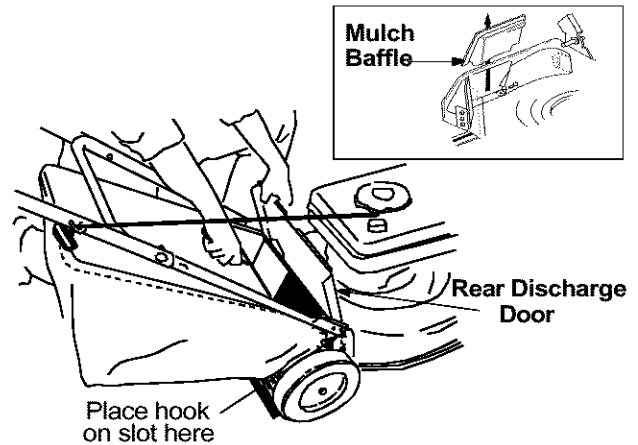

Figure 11
- If your mower is equipped with a mulching baffle, it is in place on the mower. To remove the mulching baffle, lift the rear discharge door on the mower. Remove the mulching baffle. See Figure 11 inset.
- **To attach the grass catcher:** Lift the rear discharge door on the mower. Place the hooks on the grass catcher into the slots in the handle bracket assemblies. Release the rear discharge door. See Figure 11.
- **To remove the grass catcher:** Lift the rear discharge door on the mower as shown in Figure 11. Lift the grass catcher up, out of the slots in the handle bracket assemblies. Release the rear discharge door.